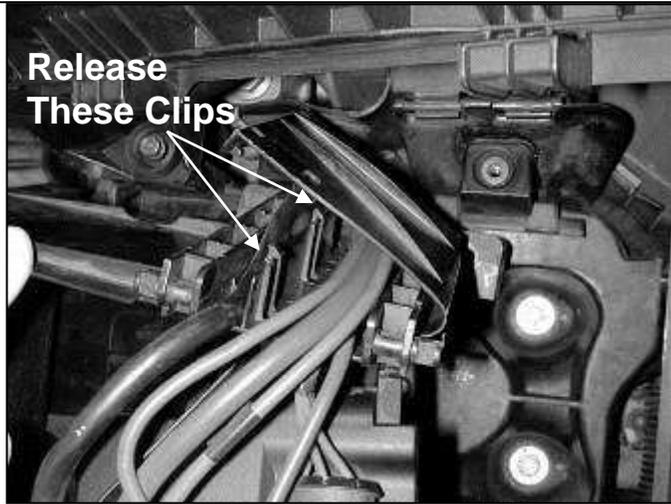

Fig. 5
- e. Unlatch the plastic wire tunnel cover on the backside of the battery box. (Fig. 5) Swing the cover open and remove the wire harness for the plastic battery box.